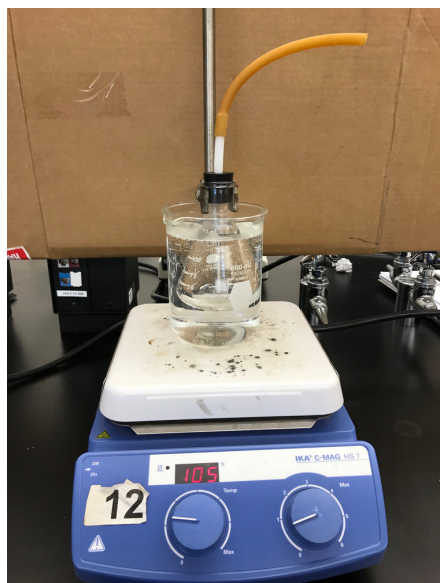

Figure 1. Heat flask in a boiling water bath.
4. Clamp the 125 mL flask to the beaker and add DI water to the beaker up to the neck of the flask. **(Figure 1)**